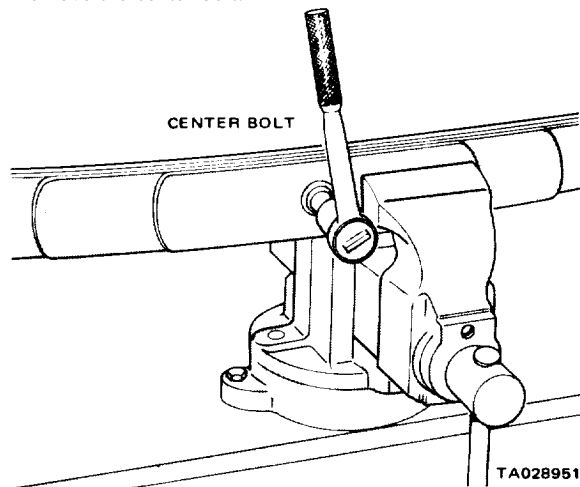

Figure 7-12. Disassembling Spring Assembly.
(1) Clamp the spring in a vise as shown in figure 7-12.
(2) Insert a long drift in the center bolt hole and release the vise slowly.
(3) Remove the assembly from the vise and replace the broken leaf.
(4) Place the spring assembly in a vise. Slowly tighten the vise while holding the spring leaves in alignment with the drift.
(5) Remove the drift, install the center bolt (figure 7-12), and torque to 40 ft-lbs.
(6) Reinstall the alignment clips, and remove the spring from the vise.